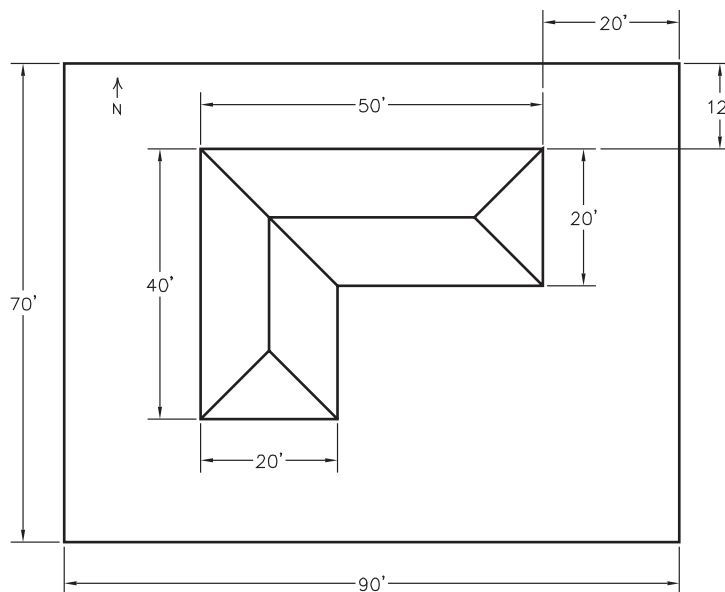

Fig. 18-1
5. Draw the site plan in Fig. 18-1 according to the dimensions shown. With snap set at **2'**, place the lower left corner of the property line at absolute point **10,10**. Omit dimensions. All points in the drawing should fall on the snap grid.